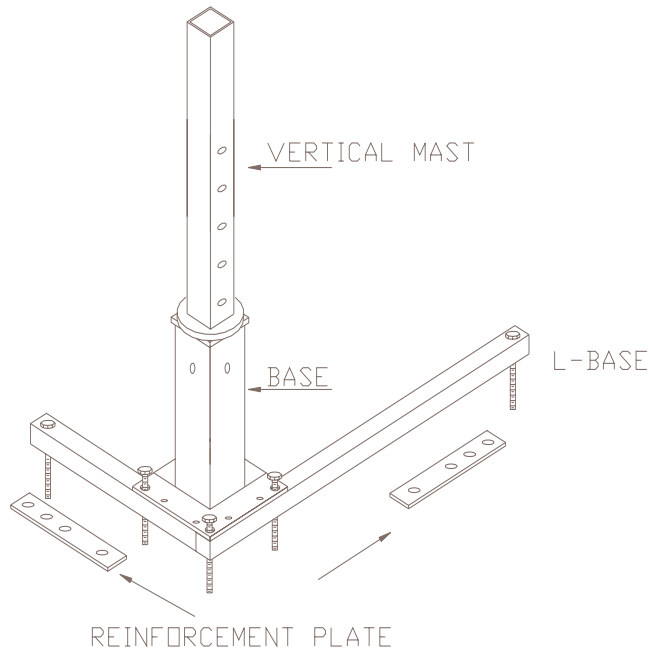

FIGURE 4.
4. Insert the vertical mast into base. See figure 4.